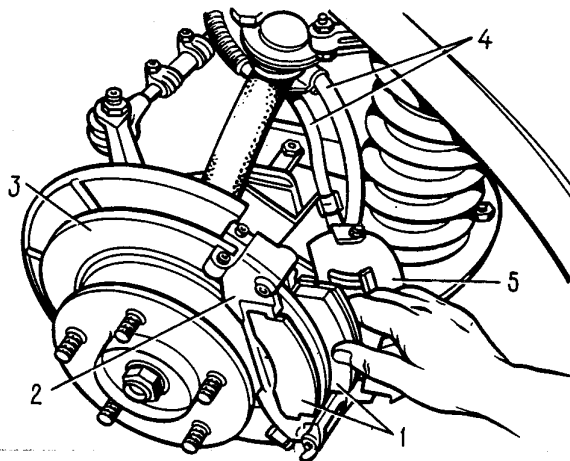

Fig. 6-17. Replacing Brake Shoes:
- uncotter the axle of the upper holddown lever, take out the axle and remove the lever; remove the caliper assembly and pull the worn shoes from the slots of the guide (Fig. 6-17);